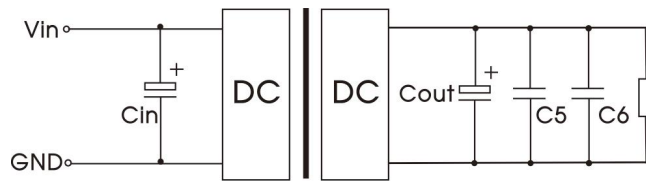

Fig.4
Note: ① By measuring method is used for Ripple and Noise test, please refer to Fig. 4. for recommended circuit.